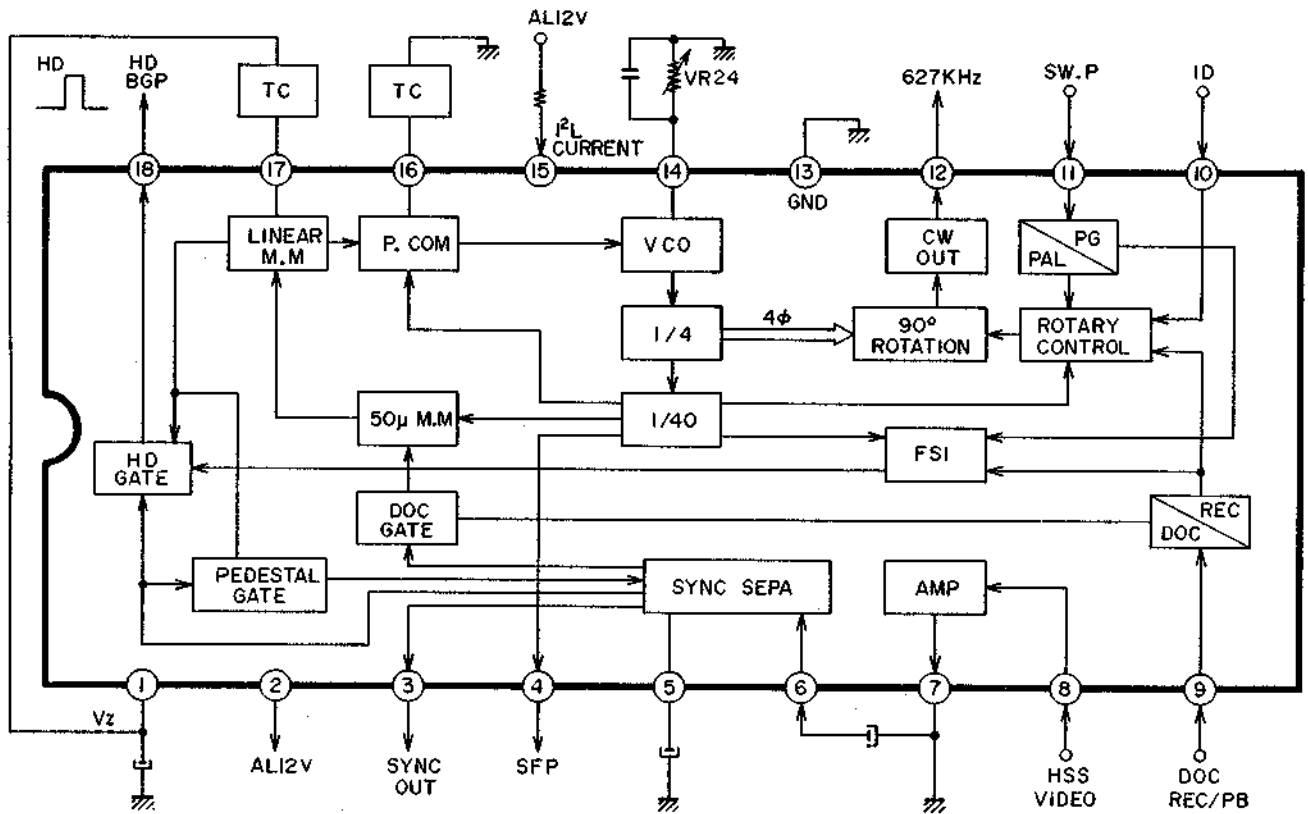

Fig. 92
Fig. 92 shows the internal block of IC AN6362 of AFC. Video signal for HSS (from VIDEO OUT TR25) from Pin ⑧ is entered through the filter. After amplified, it enters SYNC SEPA and the output comes from ③ and it will be the source of REF V (for servo). Also, HD pulse is outputted from ⑱ by the SYNC SEPA (\rightarrow BGP). SYNC enters AFC loop, and after rotation controlled, 625 kHz is outputted at ⑫. VCO output (1/160) of AFC is outputted at ④ as SFP (SYNC FRONT PULSE). This SFP and HD are sent to SYSCON to be used for the tuner searching (To judge whether it is the video signal or not). The frequency of SFP, if measured, naturally shows 15.625 kHz if AFC is locked. The time constant of AFC is governed by C and R of Pin ⑯, and the free run frequency is adjusted by VR24 of Pin ⑭ so that Pin ⑯ DC will be 4.6V when the video signal is inputted. (TP-31).